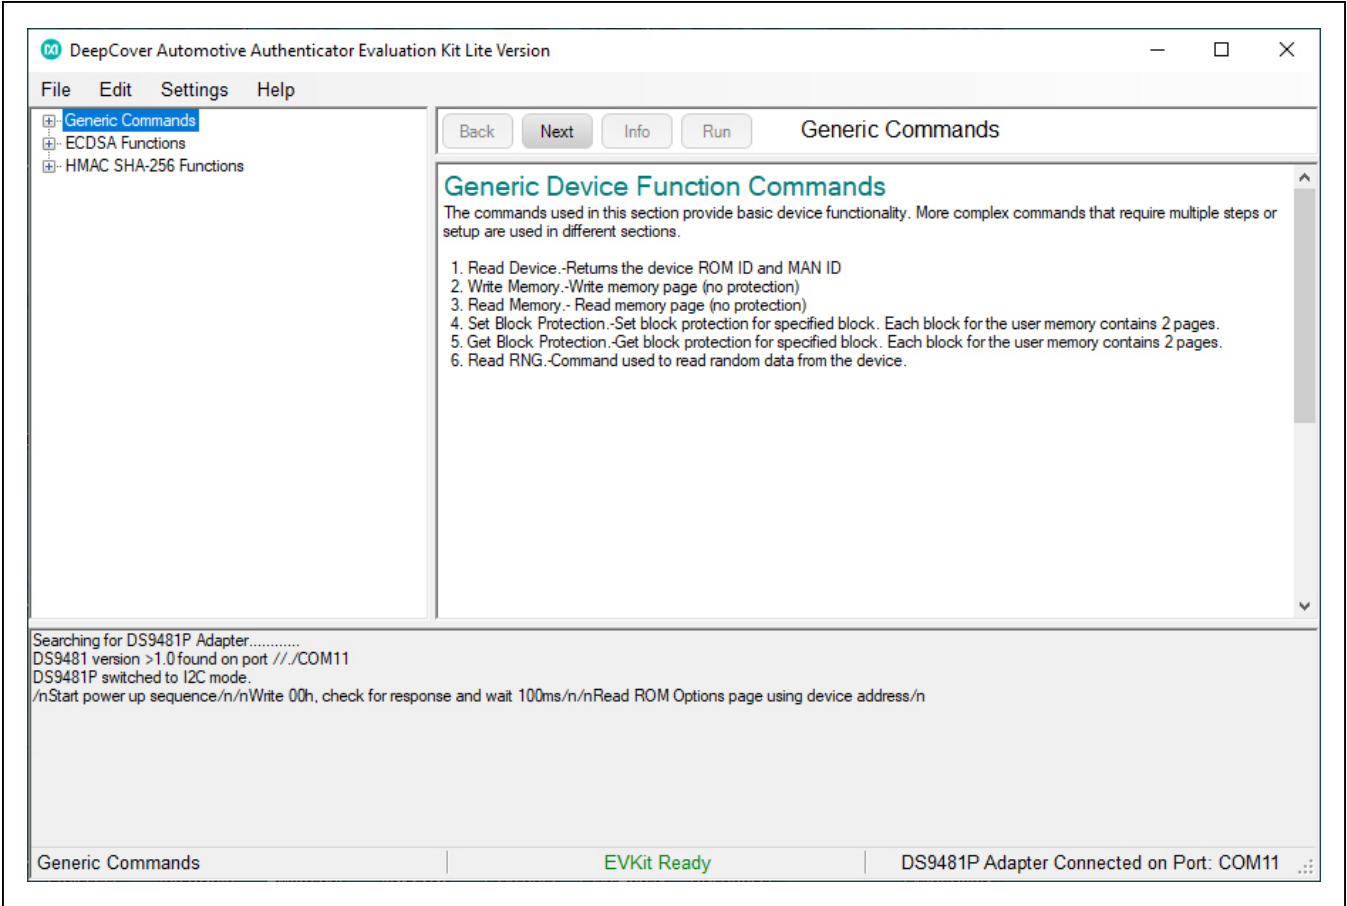

Figure 8. DS28C40 EV Kit Program (Default View Upon Opening)
- 7) The DS28C40 EV kit program opens and automatically connects to the COM port. This can be verified in the lower right corner of the window, as shown in Figure 8.